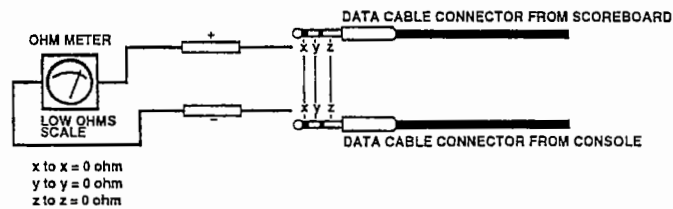

Figure 20
2. Using an OHM meter, measure the resistance of the cable, see Fig. 20 below.